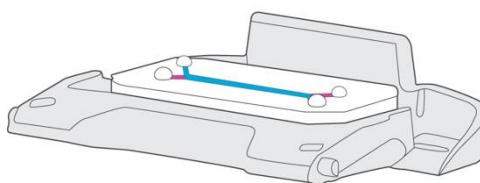

Figure 4: Chip in chip carrier with small droplets of ECM solution at ports
5. Introduce ECM solution through the top channel inlet, leaving small droplets of excess ECM solution on both ports in both channels. (See Figure 4.)